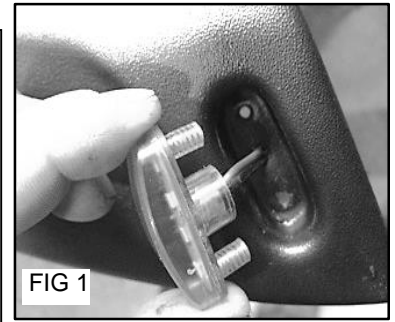

FIG 1
- Locate the supplied "U" shaped rubber edge trim. Peel back approx. 2" of the red lining. FIG 1
- Locate the supplied LED lights. Place the light into the formed pocket at the front of the flare. Push the hot and neutral wires through the center hole in the pocket. Fig.1
- Locate three factory screws on the inner wall of the wheel well lip. Fig. 1,2 and 3
Step 1. Have an assistant place the flare on the fender. Adjust the flare for best fit. Fig 1